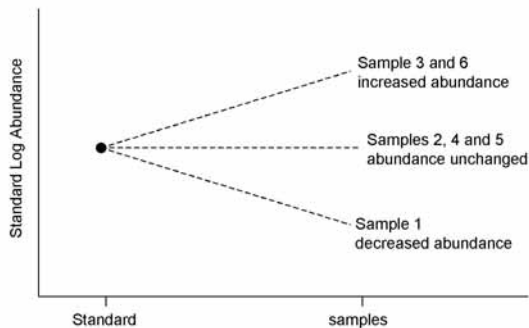

Figure 1-3.
- Spot quantitation is performed automatically by normalizing spot volumes against the internal standard (Figure 1-3). The co-detection algorithm ensures that the internal standard and the quantified analytical spot have an identical spot boundary. This results in a highly accurate and robust protein quantitation.